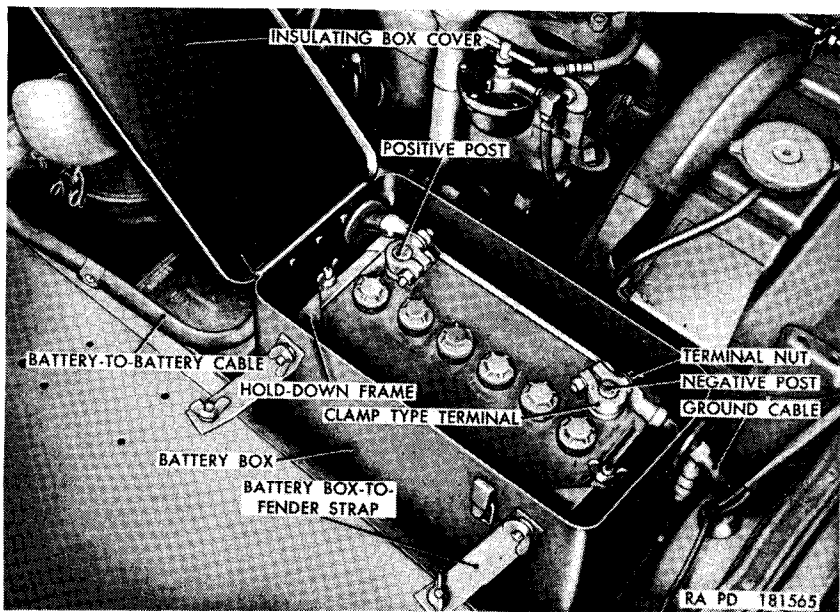
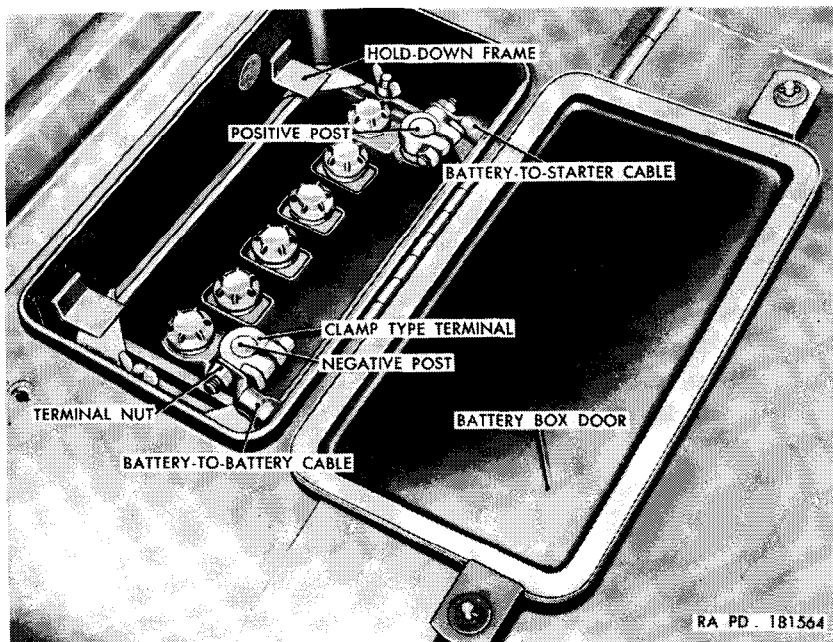

Figure 68. Battery "A" located in engine compartment.
Figure 69. Battery "B" located in cowl.
- (2) *Batteries*. One battery is located in the right side of the cowl (fig. 69) and is accessible through a door on the top of the cowl. The other battery is located in the right side of the engine compartment (fig. 68). Terminals are waterproofed by applying a thick coating of artillery and automotive grease (GAA) after installation.
a. General. For purposes of identifying the individual batteries in the procedures given in this paragraph, the battery located in the engine compartment is identified as battery "A" (fig. 68) and the battery located in the cowl is identified as battery "B" (fig. 69).
c. Battery "A" Removal (fig. 68).
- (1) Lift and release the ring latches securing the insulating box cover and open the cover.
- (2) Remove the terminal nut and disconnect the ground cable from the clamp-type terminal on the negative post.
- (3) Remove the terminal nut and disconnect the battery-to-battery cable from the clamp-type terminal on the positive post.
- (4) Remove the two wing nuts and flat washers securing the hold-down frame to the battery, and the wing nuts and flat washers securing the battery box-to-fender straps to the battery box and hold-down frame. Remove the box-to-fender strap bolts and remove the hold-down frame.
- (5) Lift the battery straight up and out of the battery box.
d. Battery "A" Installation (fig. 68).
- (1) Lower the battery into the battery box, with the battery posts toward the engine side of the box.
- (2) Install the hold-down frame and install the two $\frac{5}{16}$ x $\frac{3}{4}$ bolts through the hold-down frame, the battery box, and the battery box-to-fender strap. Secure the hold-down frame and box-to-fender straps with four $\frac{5}{16}$ -inch plain washers and $\frac{5}{16}$ -inch wing nuts.
- (3) Connect the battery-to-battery cable to the clamp-type terminal on the positive post, and secure with a $\frac{3}{8}$ -inch terminal nut.
- (4) Connect the ground cable to the clamp-type terminal on the negative post, and secure with a $\frac{3}{8}$ -inch terminal nut.
- (5) Check polarity (*g* below).
- (6) Close the insulating box cover and secure with the ring latches.
- e. Battery "B" Removal (fig. 69).
- (1) Open battery "A" insulating box cover (*c*(1) above).
- (2) Disconnect the ground cable from battery "A" (*c*(2) above).
- (3) Turn the wing nuts securing the battery box door one-quarter turn and open the door.
- (4) Remove the terminal nut and disconnect the battery-to-battery cable from the clamp-type terminal on the negative post.
- (5) Remove the terminal nut and disconnect the battery-to-starter cable from the clamp-type terminal on the positive post.
- (6) Remove two wing nuts securing the hold-down frame and remove the frame.
- (7) Remove the battery (c(5) above).
f. Battery "B" Installation (fig. 69).
- (1) Lower the battery into the cowl (see Note in *d*(1) above).
- (2) Install the hold-down frame and secure with two $\frac{5}{16}$ -inch wing nuts.
- (3) Connect the battery-to-starter cable to the clamp-type terminal on the positive post and secure with a $\frac{3}{8}$ -inch terminal nut.
- (4) Connect the battery-to-battery cable to the clamp-type terminal on the negative post and secure with a $\frac{3}{8}$ -inch terminal nut.
- (5) Close the battery box door and secure by turning the wing nuts one-quarter turn.
- (6) Connect the ground cable to battery "A" (*d*(4) above).